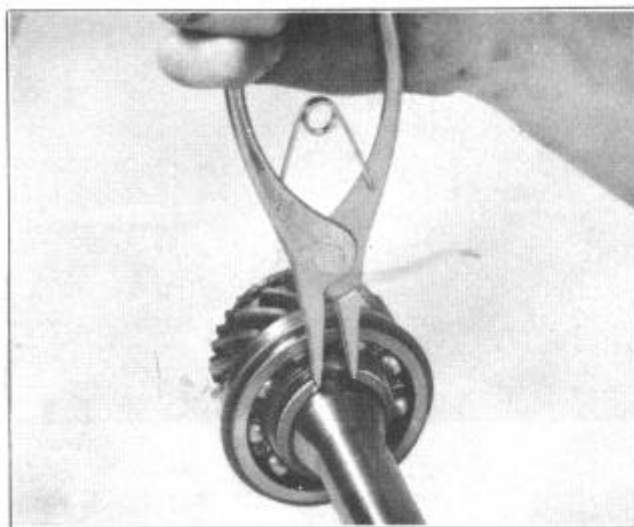

FIGURE 10
a. To remove the bearing from main drive gear, remove the main drive gear lock ring. Figure 10